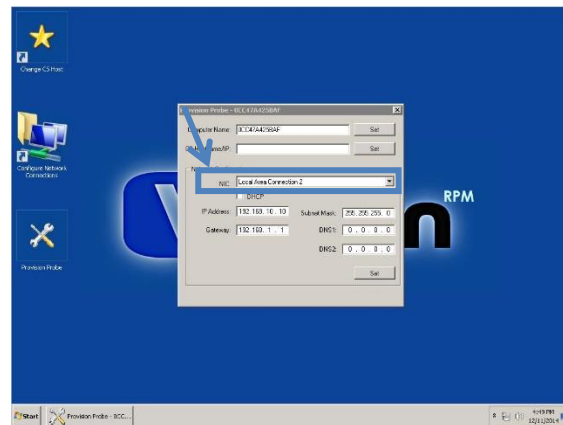

Figure 8.2.2. Volicon Scout Desktop – Provision Probe.exe.
- c. A window will popup as shown in Figure 8.2.2. Please make sure that the “NIC” selected is “Local Area Connection 2”
- h. A window will popup as shown in Figure 8.2.2. Please make sure that the “NIC” selected is still “Local Area Connection 2”